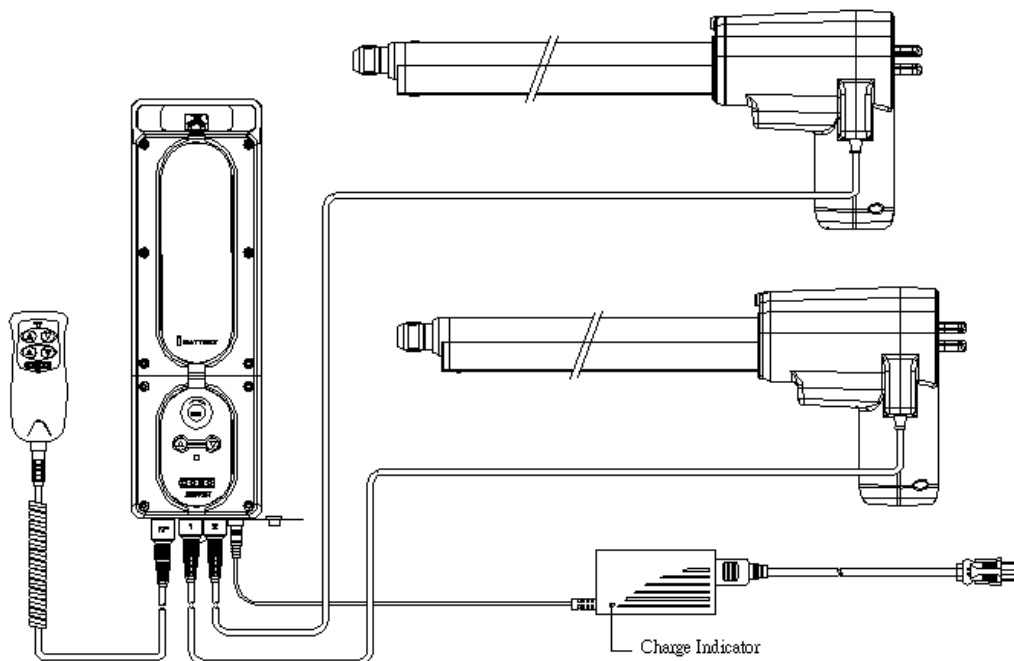

Fig. 1
- 2.1 LAK2J-11 Controller can be charged directly with LAKCH-A. Indication light on LAKCH-A will be red when charging, green when charging complete (Fig.1)